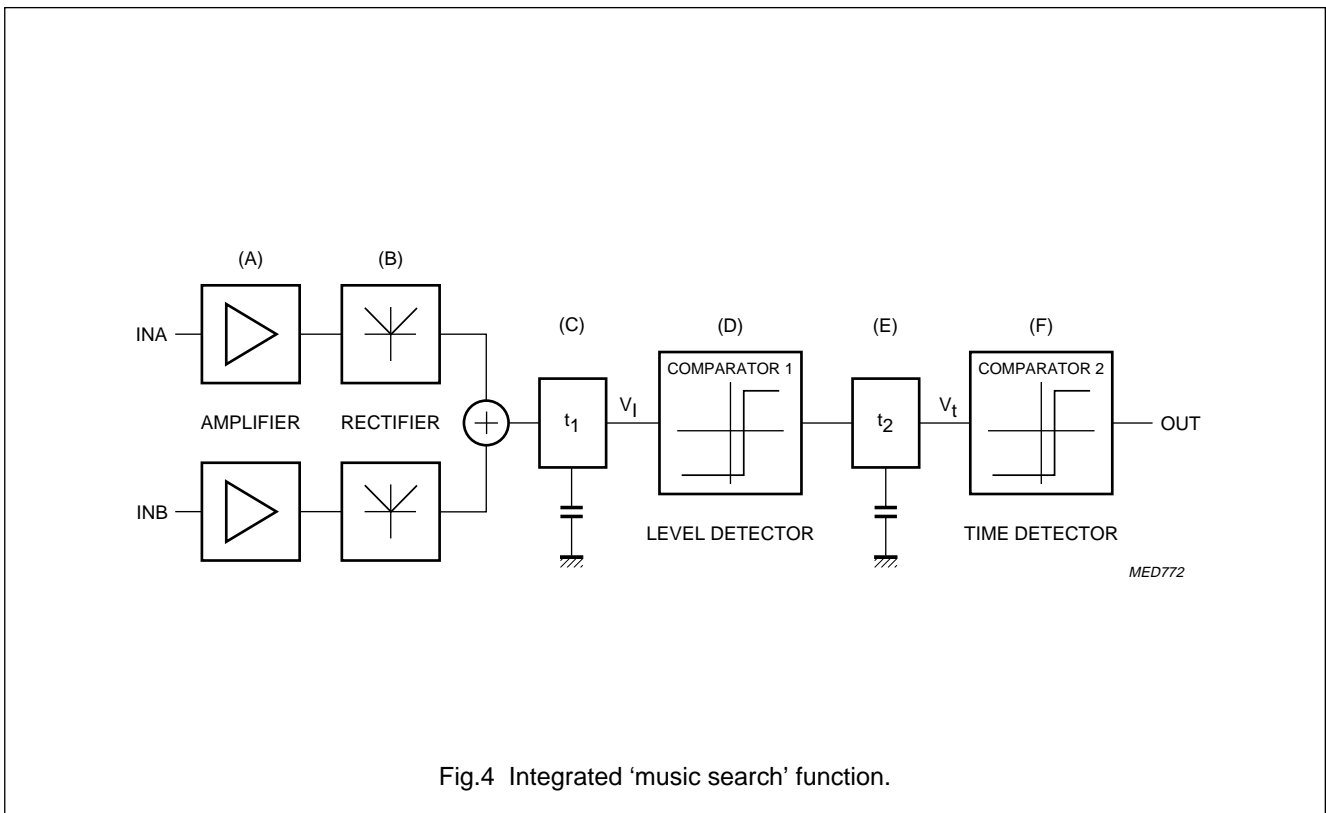

Fig.4 Integrated 'music search' function.
A system for 'music search' mainly consists of a level and a time detection (see Fig.4). For adapting and decoupling the input signal will be amplified (A), then rectified (B) and smoothed with a time constant (C). So the voltage at (C) corresponds to the signal level and will be compared to the predefined pause level at the first comparator (D), the level detector. If the signal level becomes smaller than the pause level, the level detector(D) changes its output signal. Due to the output level of the level detector the